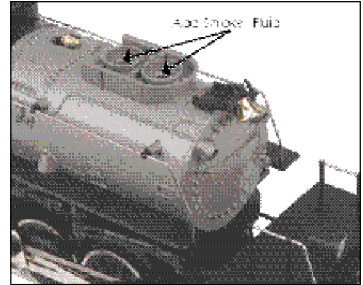

Figure 4 - Add Smoke Fluid
(See Fig. 4 on page 12)
■ When preparing to run this engine, add 15-20 drops of smoke fluid through the smokestack. (see figure 4) We recommend M.T.H. ProtoSmoke, Seuth, LGB, or LVTS fluids (*a small pipette of ProtoSmoke fluid is included*). Do not over fill the unit or the fluid may leak out and coat the interior engine components.